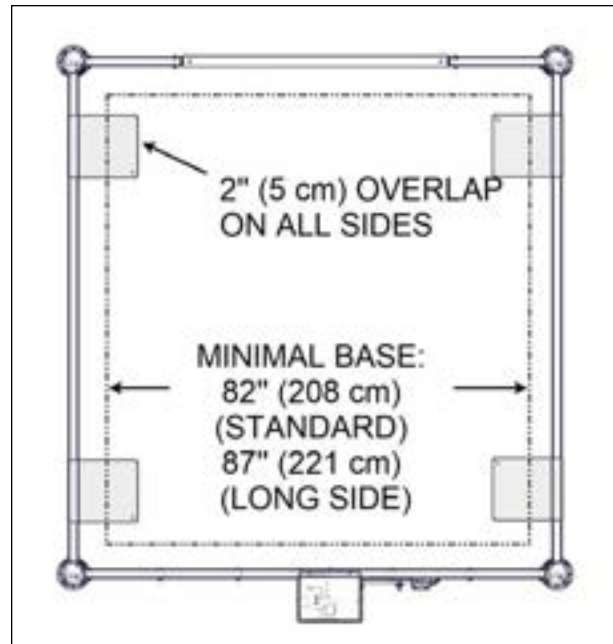
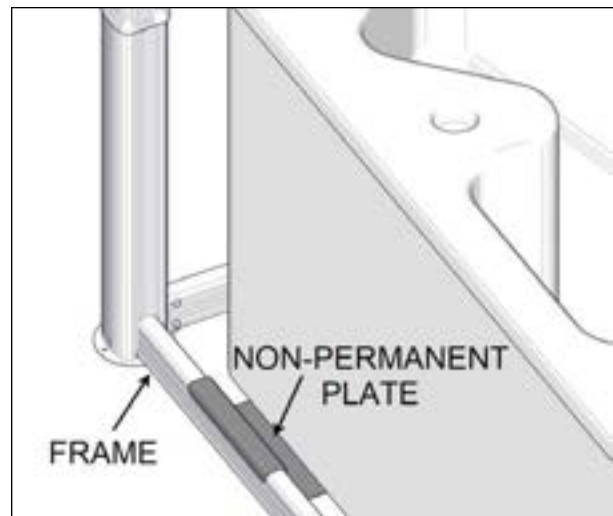

FIGURE 71: LOCATION OF THE PLATES
FIGURE 72: PLATE AND U-FRAME
Three installers are required. Two installers should lift the spa at one end approximately 4" off the ground while the third installer slips the non-permanent mounting plates under the spa and hooks them over the U-frame see Figure 71 and Figure 72.
2. Repeat step on the other side as shown on Figure 72